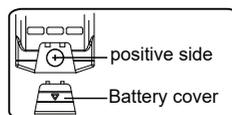

fig.1
- Put CR2032 battery into the gage, the positive side should face out. (fig.1)